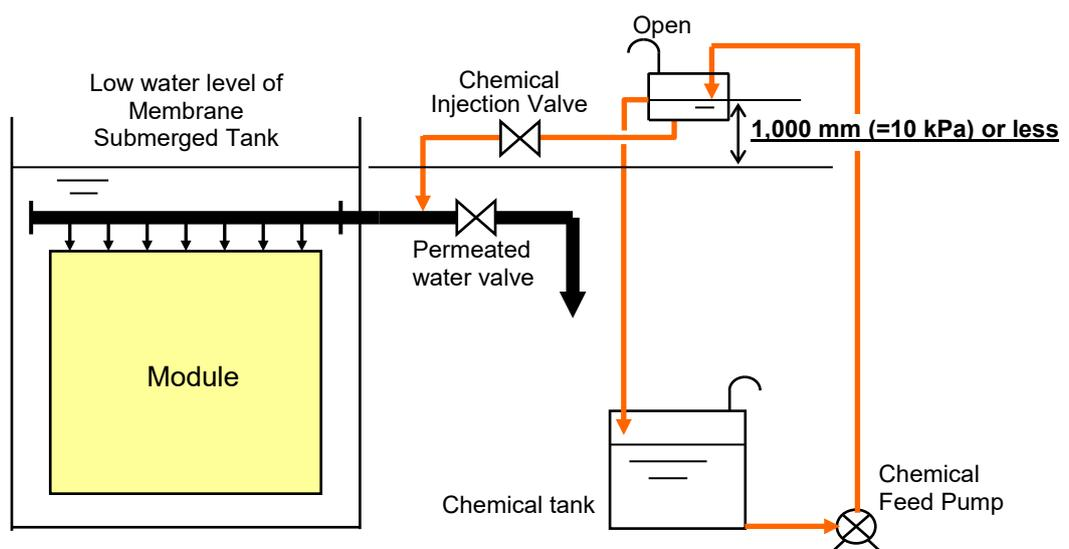

Fig.VIII-1 Chemical Cleaning with Chemical Tank Located at Bottom
- a. Chemical Cleaning with the chemical tank located at the bottom (Fig.VIII-1)